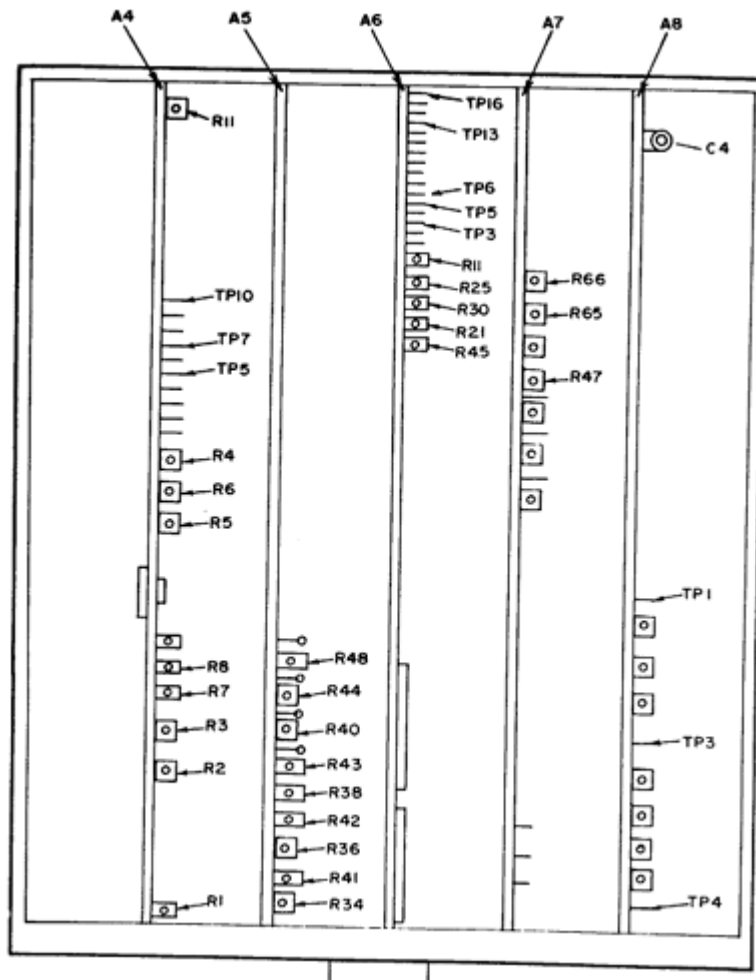

Figure 3. Model 83525A plug-in - adjustment locations.
- (1) Press **INSTR PRESET** and **STOP** keys. Enter data **2 GHz** on keyboard.
- (2) Press TI (plug in) **AMPTD MKR** key (ON). Connect microwave frequency counter to A8TP1 (fig. 3).
- (3) Adjust A8C4 (fig. 3) for microwave frequency counter indication of 50,000,000 ± 250 Hz (R).
- (1) Connect multimeter to A6TP3 (+) and A6TP5 (-) (fig. 3). Adjust A6R21 (fig. 3) for multimeter indication of -10.000 ± 0.001 V dc (R).
- (2) Connect multimeter to A6TP13 (+) and A6TP16 (-) (fig. 3).
- (3) Press function keys and enter corresponding data on keyboard as listed in (a) through (g) below:
- (4) Adjust A6R11 (fig. 3) for multimeter indication of -6.250 V dc. Record multimeter indication.
- (5) Press function keys and enter corresponding data on keyboard as listed in (a) through (c) below:
- (6) Adjust A6R30 (fig. 3) for a difference of 12.9968 V dc between the value recorded in (4) above and multimeter indication (R).
- (7) Press M2 key and enter data **0 BKSP** on keyboard. Adjust A6R25 (fig. 3) for multimeter indication of -12.6218 V dc (R).
- (8) Press function keys and enter corresponding data on keyboard as listed in (a) through (c) below:
- (9) Adjust A6R11 (fig. 3) for multimeter indication of -19.5000 V dc.
- (10) Press **INSTR PRESET** key and repeat (3) through (9) above until no adjustment is necessary.
- (11) Ensure TI **SWEEP OUTPUT** is connected to oscilloscope **CH2** input.
- (12) Connect oscilloscope **CH1** input to A6TP6 (fig. 3). Set oscilloscope for an X verses Y function operation.
- (13) Press function keys and enter corresponding data on keyboard as listed in (a) through (d) below:
(14) Adjust oscilloscope controls as necessary to view TI M1 marker and band switch point (break in trace).
(15) Adjust A6R45 (fig. 3) to align the band switch point with M1 marker as indicated on oscilloscope display (R).
(16) Connect multimeter to A6TP6 (fig. 3) and chassis ground.
(17) Press **INSTR PRESET** and **CW** keys. Record multimeter indication.
(18) Press **CF** and **ΔF** keys. Enter data **0 MHz** on keyboard and adjust A7R47 (fig. 3) for multimeter indication equal to value recorded in (17) above (R).
(19) Disconnect multimeter from TI.
(20) Press function keys and enter corresponding data on keyboard as listed in (a) through (o) below:
(21) Adjust oscilloscope controls as necessary to view TI M1 marker.
(22) Adjust synthesized signal generator frequency and level controls as necessary to align the birdie on the leading edge of M1 marker as indicated on oscilloscope display.
(23) Press **RECALL** key and enter data **2** on keyboard. Adjust A7R65 (fig. 3) to align leading edge of M1 marker with birdie on oscilloscope display (R).
(24) Press **SWEEP TIME** key and manually vary **SWEEP TIME** from 10 to 200 ms, while readjusting A7R65 for minimum shift of M1 marker (typical shift should be within ± 5 MHz).
(25) Press **RECALL** key and enter data **3** on keyboard.
(26) Repeat technique of (21) and (22) above for M2 marker.